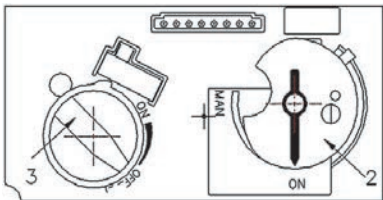
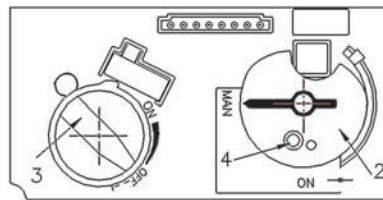
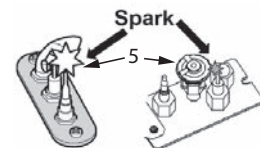

Fig 1
Fig 2
Fig 3
2. SET ON/OFF SWITCH (1) TO "OFF" POSITION.
- Wait five (5) minutes to clear out any gas, then smell for gas, including near the floor. If you smell gas, STOP! Follow "B" in the safety information above on this label. If you don't smell gas, go to the next step.
3. AUTOMATIC IGNITION (fig. 1): Locate the pilot (fig 3.) inside of firebox at Left Hand side.
- ON/OFF switch (1) in ON position, MAN-knob (2) in ON position; set Flame Adjustment knob (3) to lowest setting (⌚);
- When the pilot is lit, the Flame Adjustment knob (3) will automatically rotate to the highest setting.
4. MANUAL IGNITION (fig. 2): With the window off, locate the pilot (fig. 3) inside of firebox at Left Hand side;
- ON/OFF switch (1) in ON position, MAN-knob (2) in MAN position;
- Set Flame Adjustment knob (3) to the lowest setting (⌚);
- Push down the metallic core (4) with a pen or similar instrument; this will establish the pilot gas flow;
- Light gas at the pilot (5) with a match;
- Continue holding down metal core (4) for about 10 seconds; after release, pilot should remain lit;
- If the pilot will not stay lit after several tries, turn the gas control knob (3) to "OFF" (⌚) and call your local service technician or gas supplier.